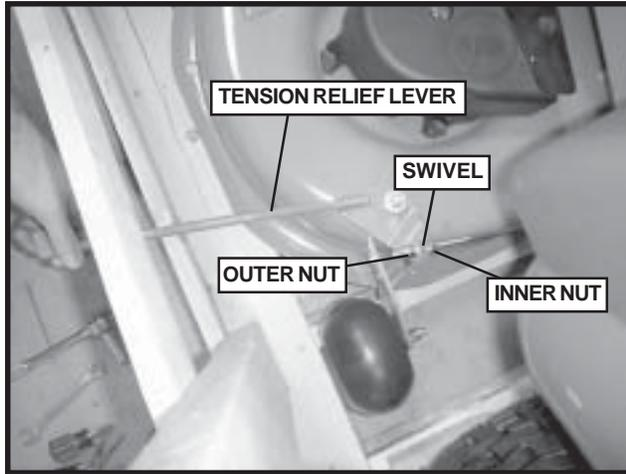

FIGURE 15
1. Fold the tension relief lever out to relieve the tension on the spring. See Figure 15.